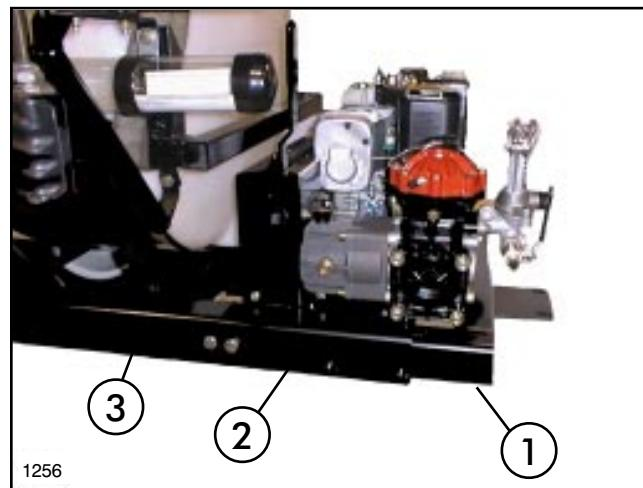

FIG. 2
6. Slide Tongue Adapter through Engine / Pump Base and into Saddle Assembly on end with Safety Decals on Tank. Secure with (4) 1 1/2" x 3-1/2" hex. hd. cap screws and flange locknuts. See FIG. 2.